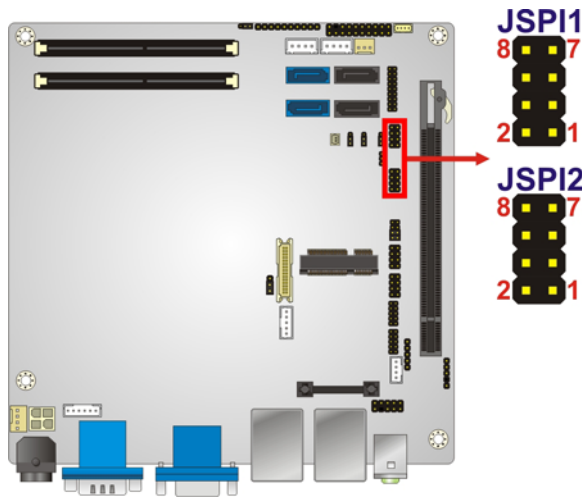

Figure 4-11: Flash Security Override Jumper Location
- Jumper Location: See Figure 4-11